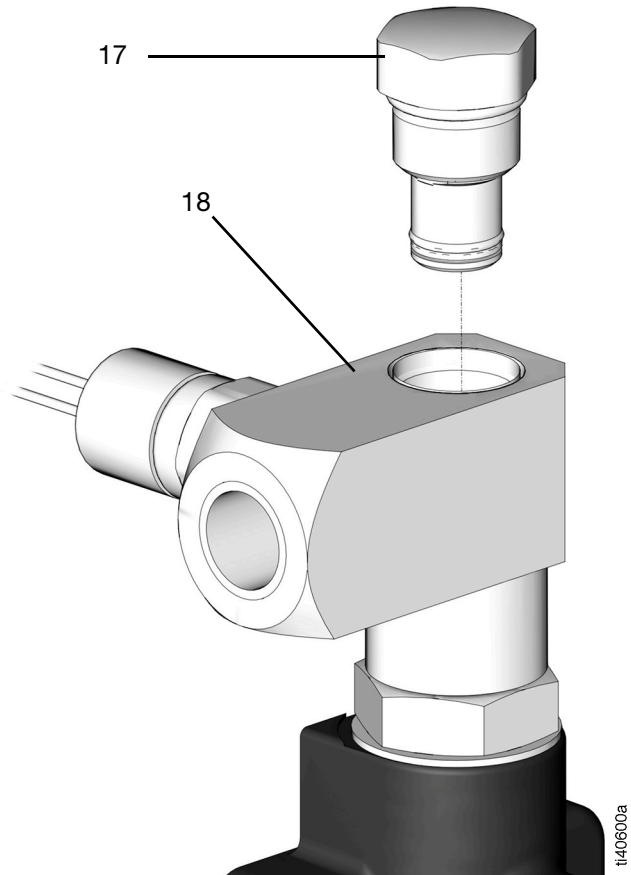

FIG. 35
3. Remove the standard check valve (17) from the outlet fitting (18) (FIG. 35).